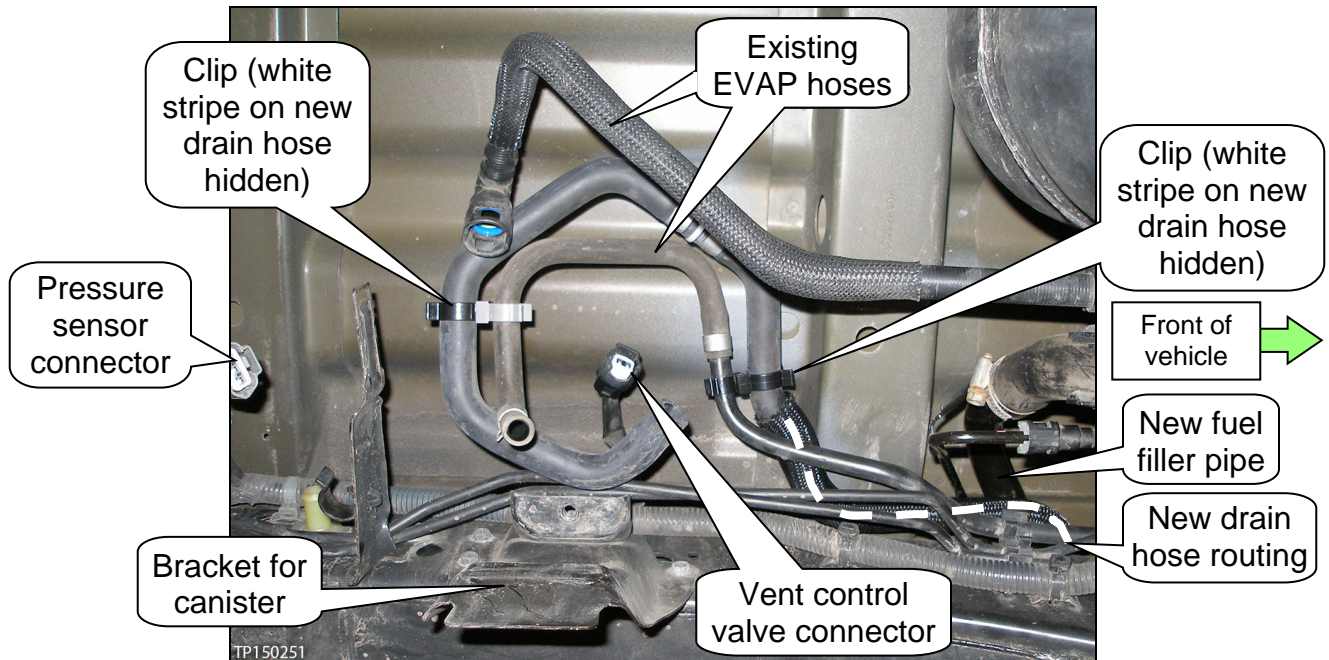

Figure 12: King Cab and long wheel base Crew Cab
6. Route the new drain hose and attach with clips as shown in Figures 12 and 13 (as they apply).
- Figures 12 and 13 are viewed while looking up under the vehicle bed.